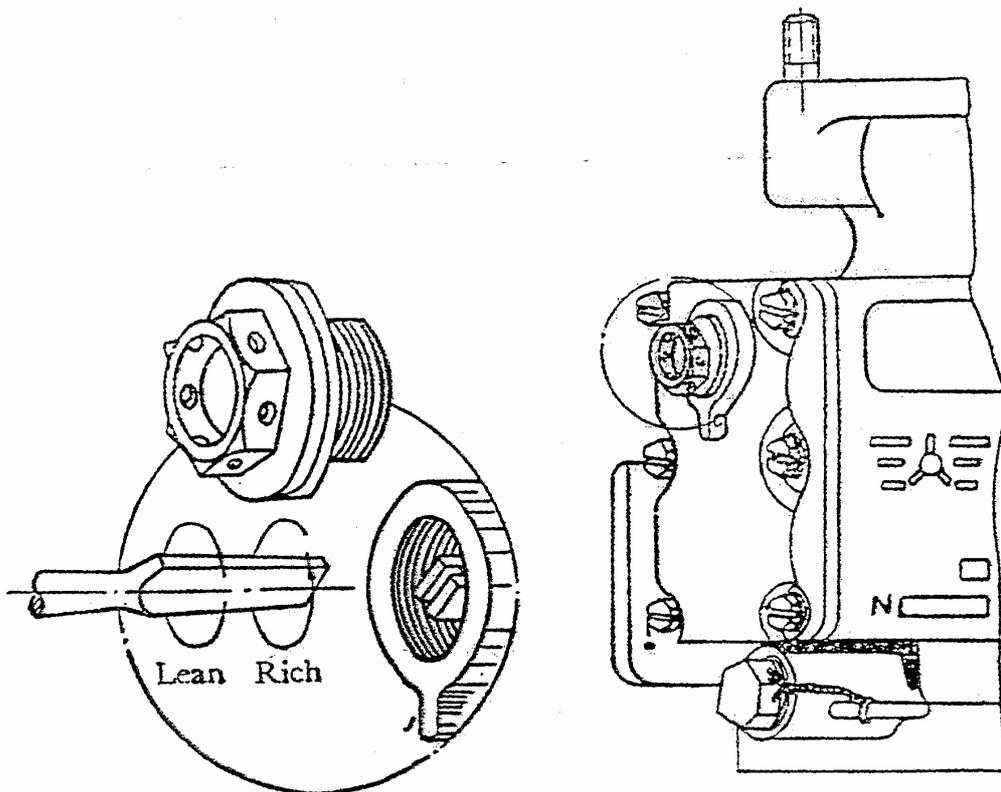

Fig. 11 Adjustment of main fuel needle
a. Regulate the mixture ratio under cruise rating with main fuel needle (fig. 11).